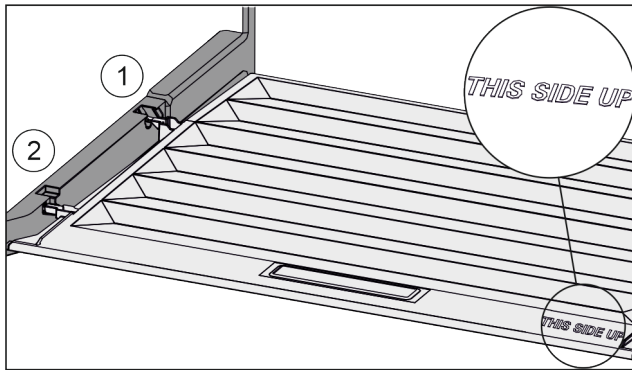

Fig. 46
- ▶ Insert the lip of the cover over the opening of the rear bracket Fig. 46 (1) and click into place Fig. 46 (2).